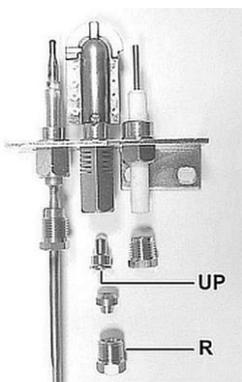

Fig. 3
2. Unscrew the R connection (Fig. 3).